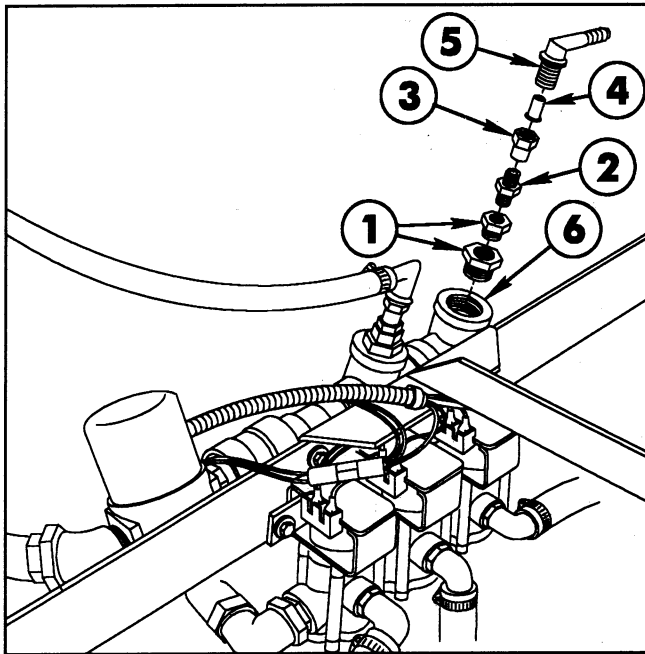

FIG. 7
1. Remove the hex plug assemble the two reducer bushings, close nipple, adaptor, check valve and barbed elbow into the second injection tee. See FIG. 7.